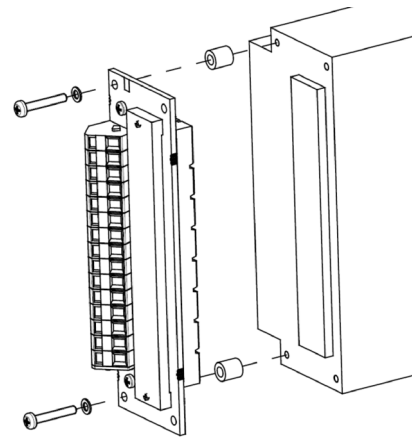

Fig. 25
- Front panels for 19" DIN-rack: Schroff or Intermas, 12 or 16TE /3U; see fig. 25.